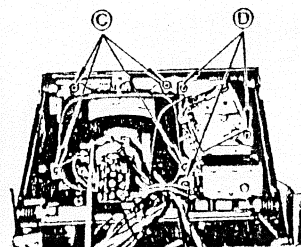

Fig. 9
3. Picture Tube: Remove 4 screws (C) shown in Fig. 9.
4. Tuner Block: Remove 3 screws (D) shown in Fig. 9.